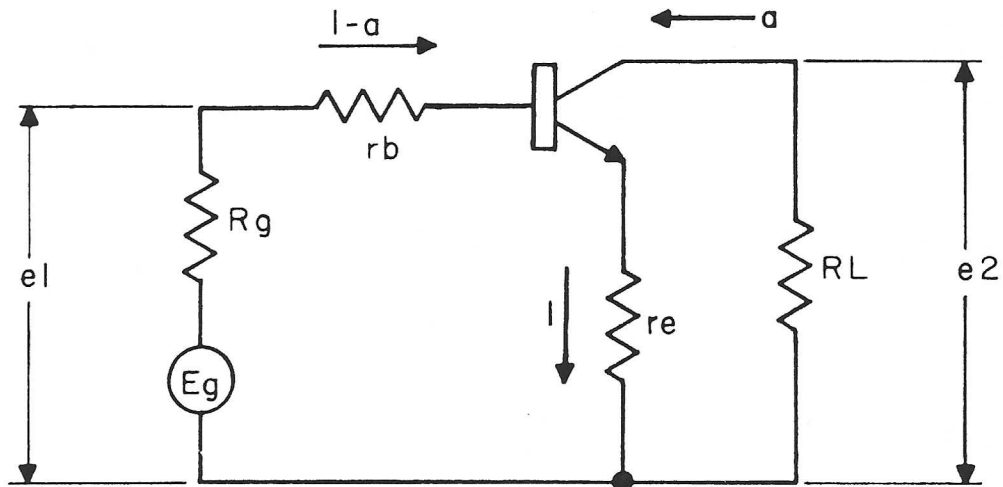

Figure 1
- d. Figure 1 shows a simplified common emitter amplifier. From this figure the input resistance is seen to be,